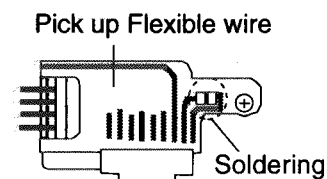

Fig.12
**CAUTION:**Whenever the flexible wire is disconnected, be sure to remove the soldering in advance as shown in Fig.12. Otherwise, the CD mechanism assembly can possibly be damaged.